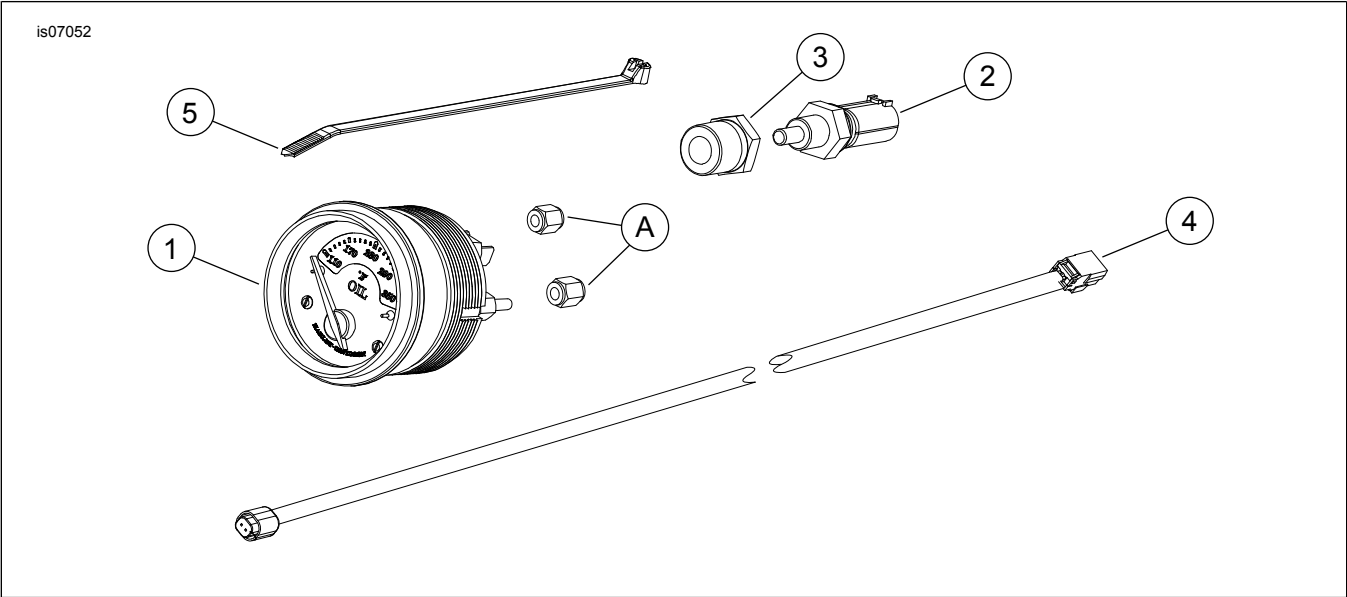

Figure 2. Service Parts: Titanium Oil Temp Gauge
See Figure 2 and Table 1.
1. See Figure 2. Obtain the oil temperature gauge (1) from the kit. From the rider position, rotate the gauge to align the face legend horizontal to the rider, and push the gauge into the fairing.
2. From the front of the vehicle, slide the gauge mounting bracket (B) over the threaded gauge studs to engage the tabs of the bracket into the inner fairing.
3. Install two locknuts (A) and tighten to 1.1–2.3 N·m (10–20 in-lbs).
2. See Figure 2. Obtain the oil temperature sending unit (2) and adapter fitting (3) from the kit. Coat the clean threads of the adapter fitting with Loctite 565 Thread Sealant, and install the fitting into the pipe plug hole in the oil pan.